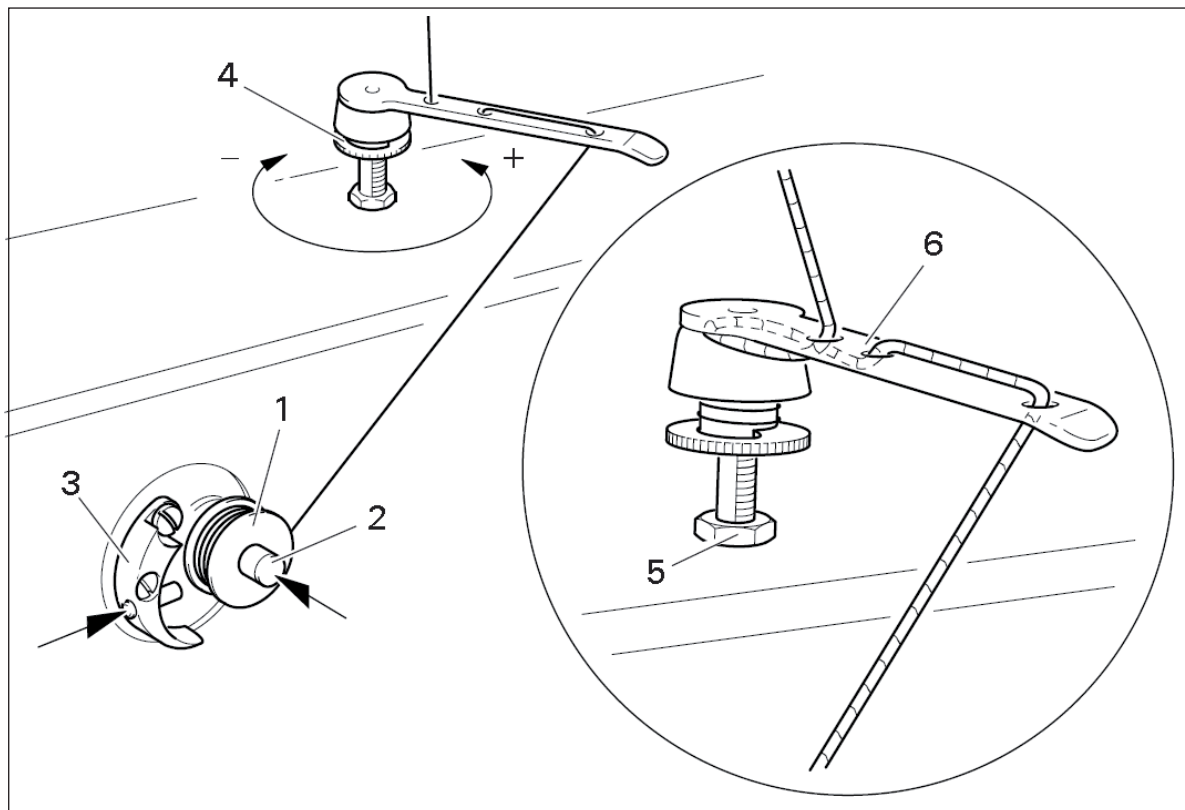

Fig.9.03
- Insert the thread as shown in Fig.9.03 and wind it a few times clockwise on the bobbin 1.